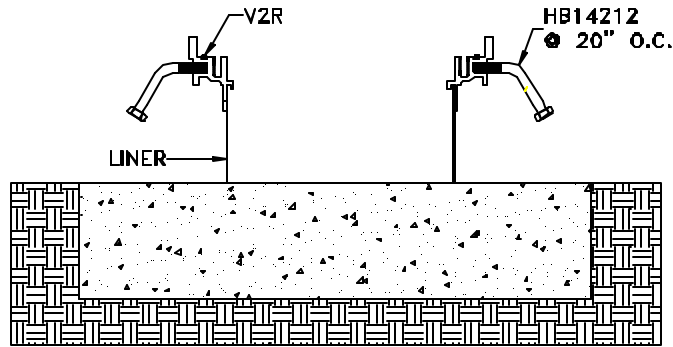

Figure 5
STEP 6. Remove the cover plate from the frame (see Figure 5).